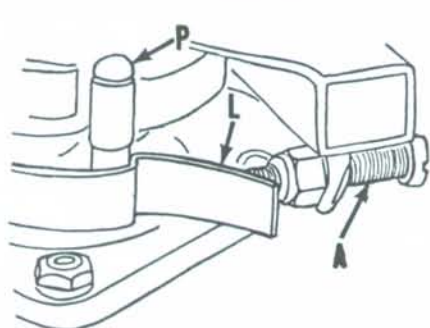

Fig. M7-9—Latch spring adjustment is required on some early models.
shown in Fig. M7-9. Hold the speed control sector and move the distributor body counter-clockwise toward the advance stop. Note the clearance between latch spring (L) and sector pin (P) while torque is applied. The spring should latch over the pin with no more than 1/64-inch clearance between pin and latch spring. Adjust by loosening the screws retaining latch (L) to distributor. After the adjustment is made, move control lever until distributor advance stop contacts the crankcase; then adjust the screw (A) until latch (L) is unhooked from pin (P).